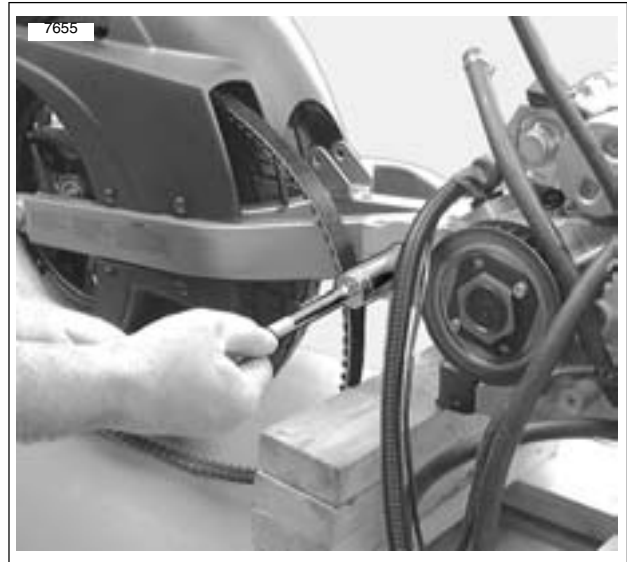

Figure 3-19. Swingarm Pivot Shaft
33. See Figure 3-19. Remove swingarm pivot shaft and rear wheel as an assembly. See 2.19 SWINGARM.